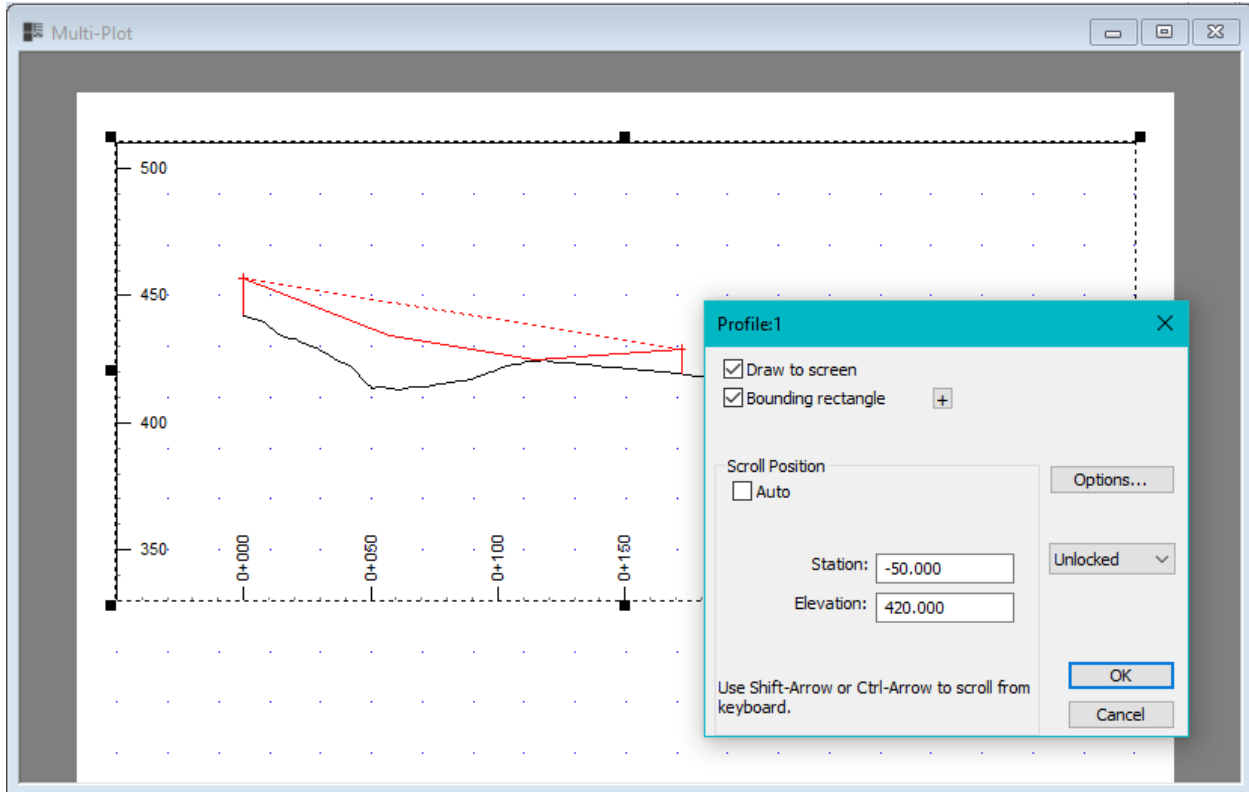

Figure 12-39: The Profile:1 Sub-view Options with explicit Scroll Position.
13. Move and size it to the top of the page as shown in Figure 12-39 below (click and drag in the interior to move , on the handles to size )